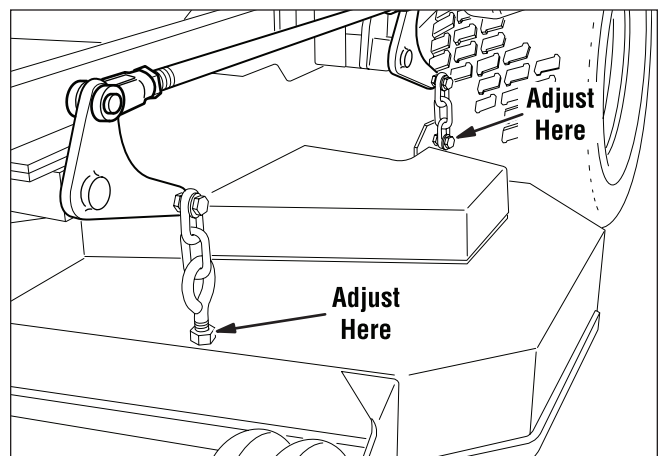

Figure 39. Hanger Chain Adjustment
4. Adjust the front eyebolts until the chains are tight and the deck is still resting on the 2 x 4 blocks. Tighten the jam nuts. See Figure 39.
to rest on the 2 x 4's and 1/4" spacers. Slide the chains down in the slots until the chains are tight and tighten the nuts. See Figure 39.